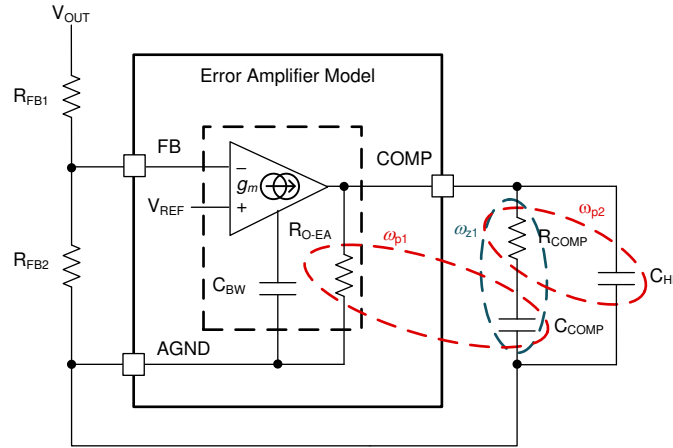

图 9-3. Error Amplifier and Compensation Network
图 9-3 shows a type-II compensator using a transconductance error amplifier (EA). The dominant pole of the EA open-loop gain is set by the EA output resistance, R_{O-EA} , and effective bandwidth-limiting capacitance, C_{BW} , as shown by 方程式 26.